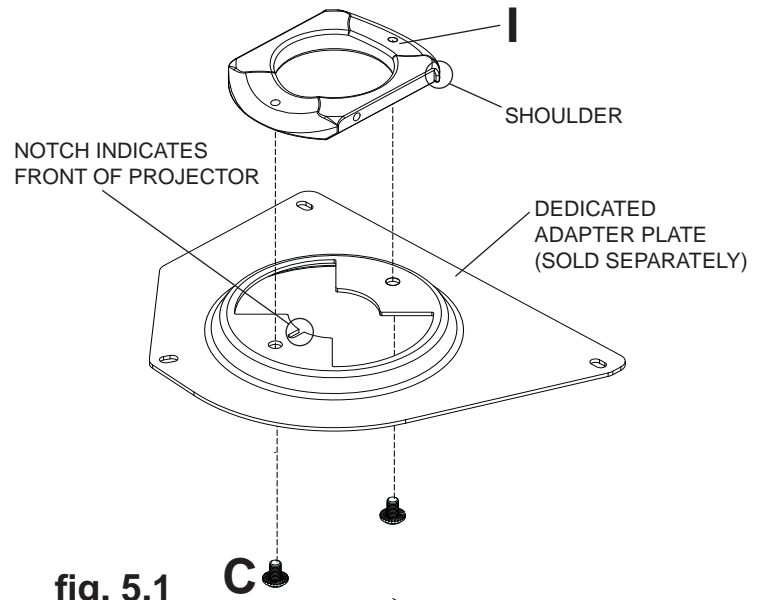

fig. 5.1
**NOTE:** The projector dedicated adapter plate you are installing may differ in appearance from the sample illustrated in figure 5.1.
Align shoulder of connection block (I) opposite notch of adapter plate. Attach dedicated adapter plate to connection block (I) using two #10-32 x 3/8" serrated washer head socket pin screws (C) as shown in figure 5.1.
**NOTE:** For PAP 35, PAP 40, and PAP 45 adapter plates, use two #10-32 x 3/4" screws provided with adapter plate in place of screws (C).